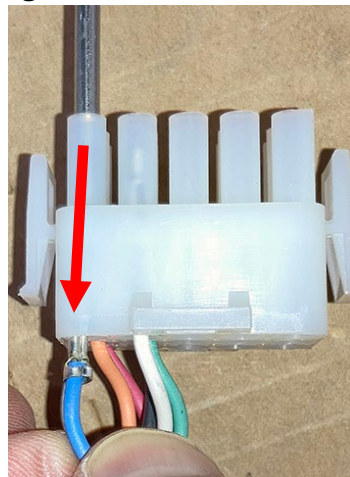

Figure 10
12. Using the supplied pin pusher, push **ALL** the pins out of the basket lift harness from step 8 and insert into the corresponding positions of the existing MALE 15-pin filter harness disconnected in step 10 (see Figures 10 & 11).